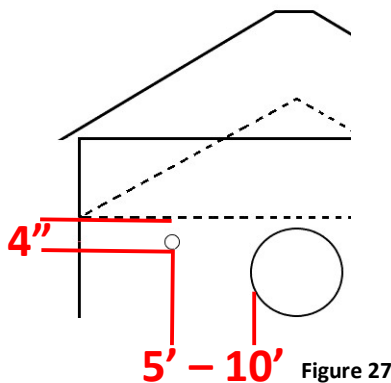

Figure 27
- Mount plenum temperature probe 4" under drying floor and 5'-10' away from burner inlet. Ex (Figure 27)